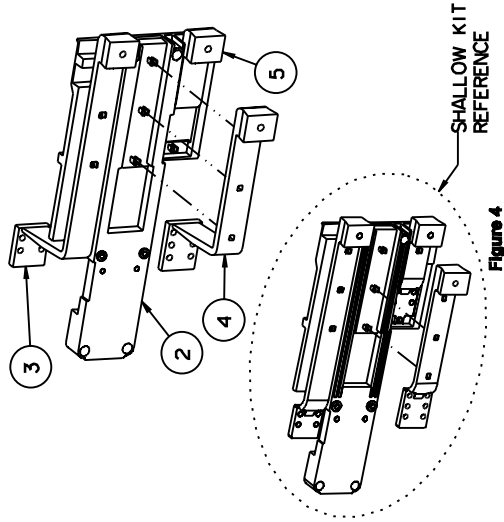

Figure 4
5. Reference fig. 4 - Installing the Phase Connectors. Align the square holes in the Long Phase Connector (item 3) over the snaps on the Strap Support Barrier (item 2) and press down latching the Phase Connector in place upon the Barrier. Repeat this step for the Medium and Short Phase Connectors (items 4 and 5).